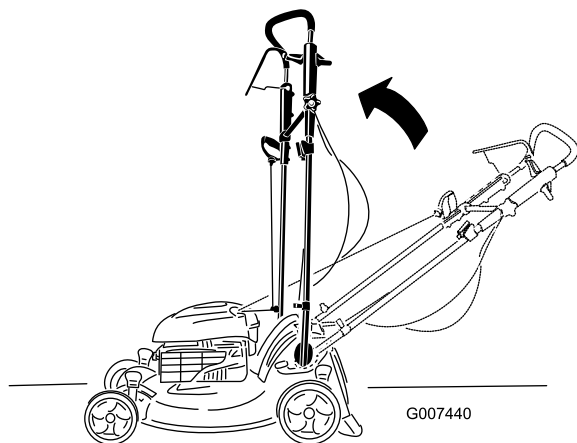

Figure 58
2. Move the handle to the upright position (Figure 58).